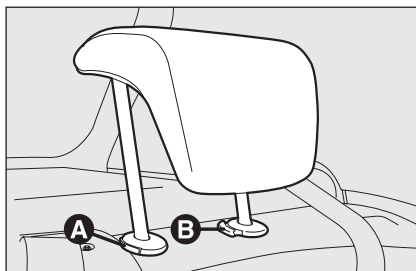

fig. 30
**REAR (where provided) fig. 30**